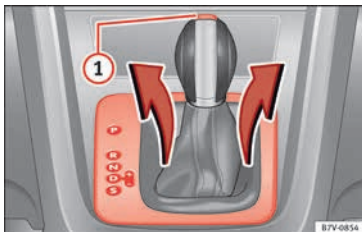

Fig. 50 Remove the lining from the area of the gear indication
- Pull the cover up around the dust guard on the gear selector lever»» Fig. 50.
- Press the lock button»» Fig. 50 ① on the gear selector lever knob and place the gear selector lever in the **N** position.